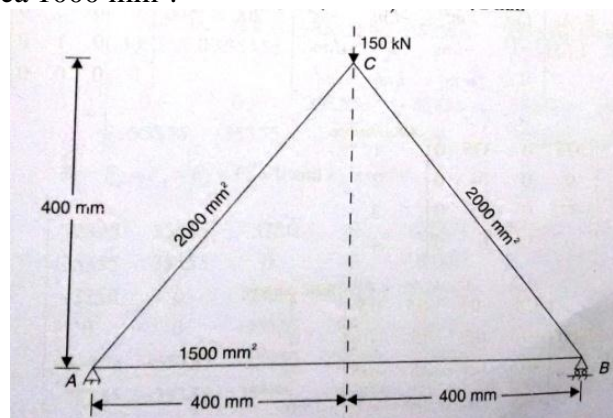

Figure 2
3. For the three-bar truss shown in figure 2, determine the nodal displacements and the stress in each member. Find the support reactions also. Take modulus of elasticity as 200 GPa and area 1000 mm^2 . [15]